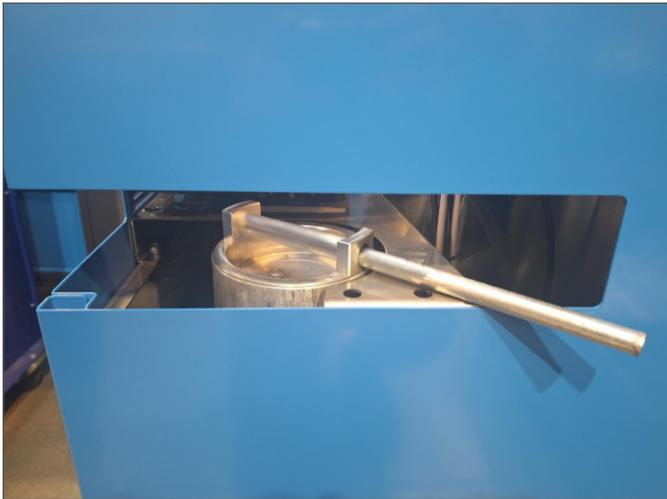

Fig. 21: Removing the filter element
1. Loosen the cover counterclockwise. Use a tube or rod to do this. Access to the cover is provided through a special cutout in the casing - see Fig. 21